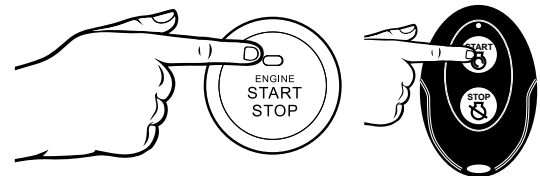

Figure 11 - Push Button Start/Remote Start
6. Push and hold the push button start for 1 second, then release. If using remote start then hold down **START** on the remote key fob until the generator starts, then release (see Figure 11).